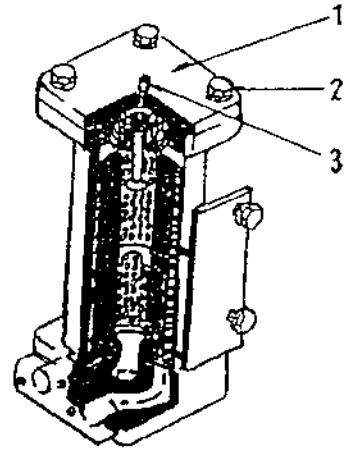

Fig. 5-9
Transmission and steering clutch oil filter elements should be cleaned and replaced as shown in Fig. 5-9. Remove bolt(2), pull up cover(1) and take out element. Then clean the inside of the case and parts. Change new parts if it is necessary. After changing parts start the engine and loosen air bleeding plug(3). Tighten the plug when oil spurts out.